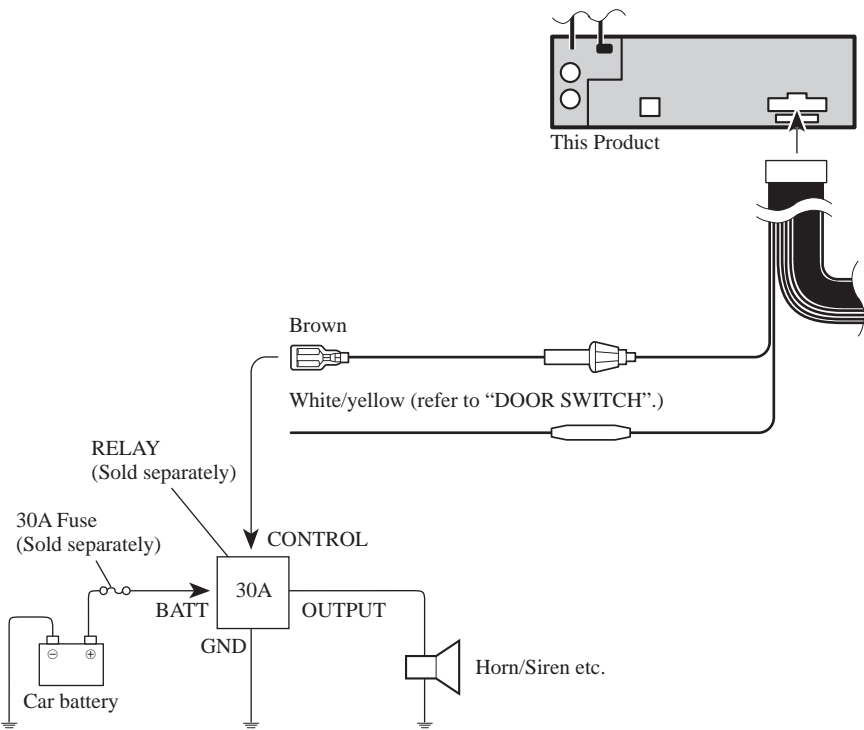

Fig. 5
- Brown (ALARM OUTPUT) ..... (Fig. 5)**